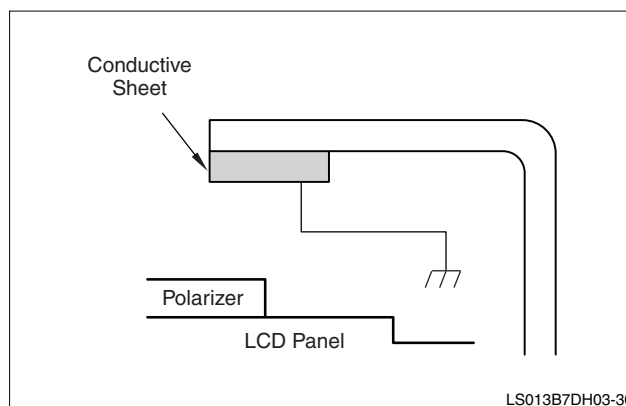

Figure 14. Bare Module Grounding
3. In a design where the module face is 'bare' (no protective or anti-reflective sheet), there can be a risk of electrostatic damage to the module. Ensure that the final design has a grounded, conductive surface that mates to the polarizer's periphery. See Figure 14.